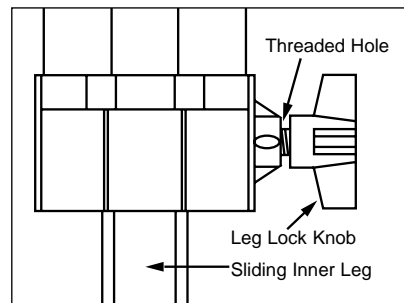

Fig. 1f: Tripod lock knob assembly.
- The three tripod lock knobs (43) have been removed from the bottom section of each tripod leg to insure safe arrival of the tripod assembly. To install, thread in each tripod lock knob into the threaded hole located at the right side of each of the three gray colored castings (see **Fig. 1f**) at the bottom of each tripod leg. Tighten the tripod lock knob only to a "firm feel" to avoid damage to the tripod caused by overtightening.
- Spread the tripod legs (1) to full extension so that the leg braces (42) are taut (should one of the tripod leg braces slip out of the center triangle fastener, merely reposition the brace and slide it back into position). Adjust the tripod with the attached equatorial mount (2) to the desired height by loosening the tripod lock knobs and extend the sliding inner section of each tripod leg; then tighten each knob.
- Attach the flexible cable controls (3) and (4). These cable controls are secured in place with a firm tightening of the thumbscrew located at the end of each cable.